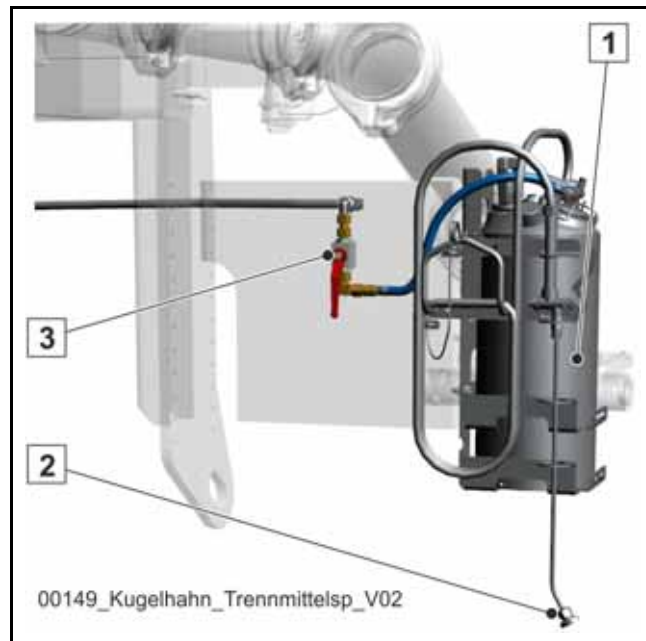

Fig. 540
If available, interrupt the compressed air supply by closing the ball valve (3) (**Fig. 540**). If there is no ball valve, shut down the vehicle.
The special equipment "release agent sprayer", consisting of a pressure tank (1) spray gun(2) and a ball valve (3) (**Fig. 540**) is generally located at the rear of your SCHWING machine.
Caption (Fig. 540)